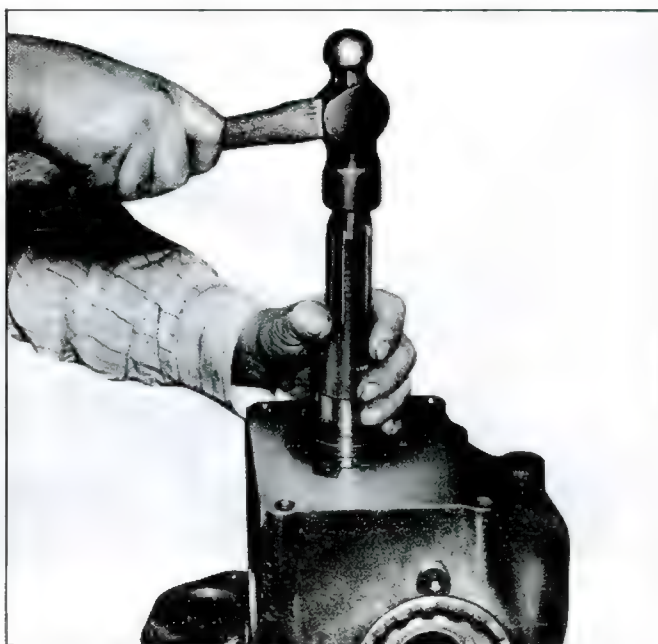

Fig. 37—Installing Pinion Shaft Front Seal with J-8340
2. Coat outer diameter of seal with non-hardening sealer, then install new seal using J-8340 as illustrated (figs. 37 and 38). Install seals so that seal lips are toward the interior of differential carrier.